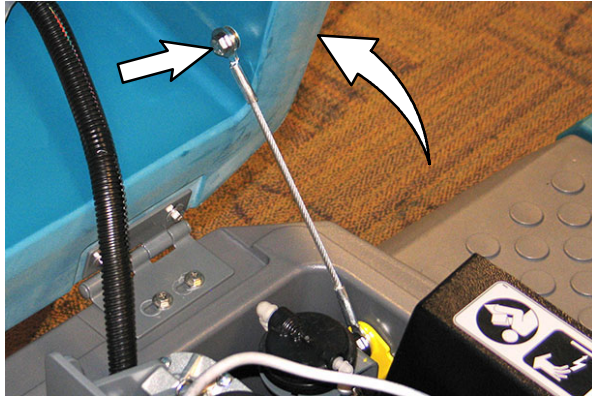

FIG. 2
4. Set the recovery tank into the service position. (Fig. 2)